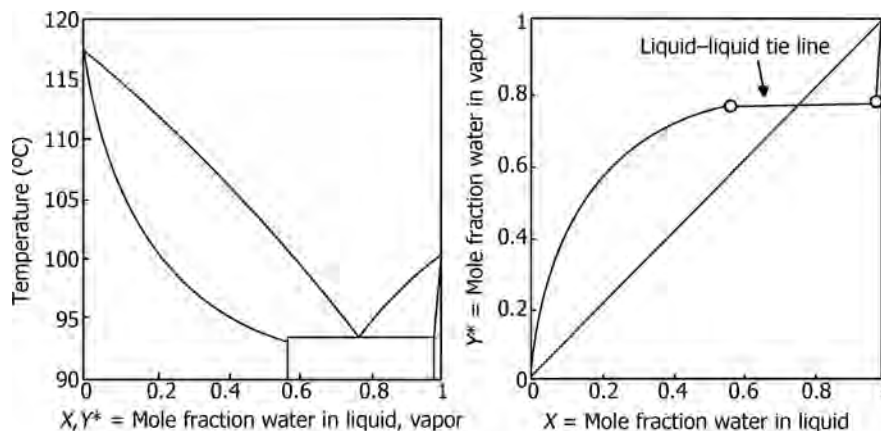

FIGURE 17.30 T - x - y and x - y diagrams for water–1-butanol system at 101.3 kPa. *Note:* The diagrams are based on NRTL equation.
- 1-Butanol–water system is an example of a heterogeneous azeotrope (Figure 17.30).